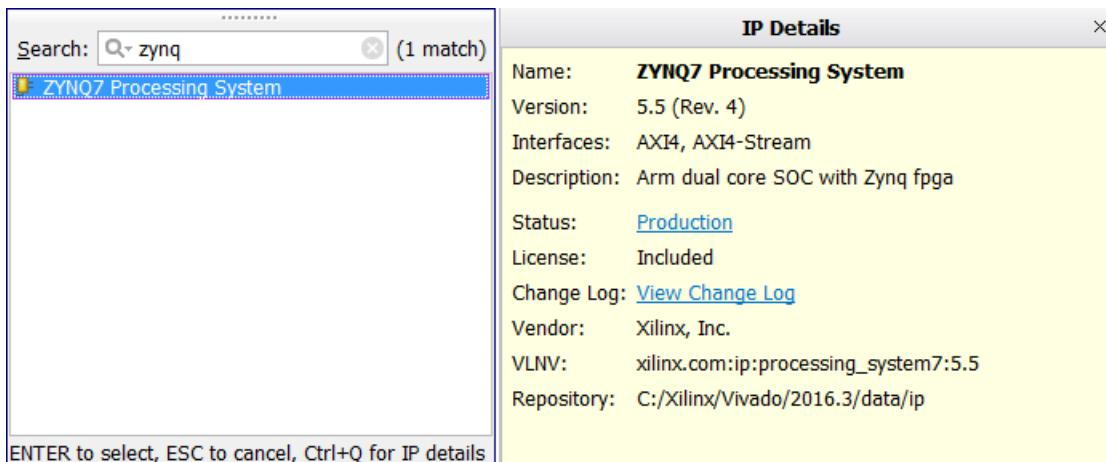

Figure 45: Instantiate the ZYNQ7 Processing System
6. In the Search field, type `Zynq`, select the **ZYNQ7 Processing System** IP, and press **Enter**. Alternatively, double-click the **ZYNQ7 Processing System** IP to instantiate it as shown in Figure 45.